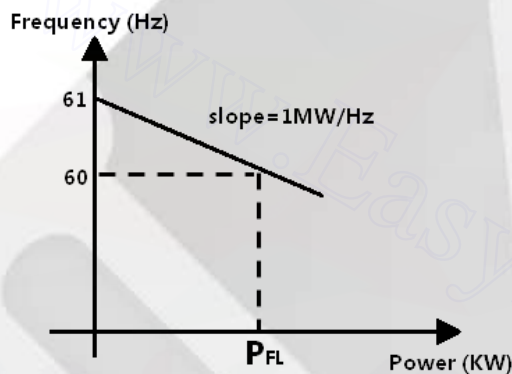
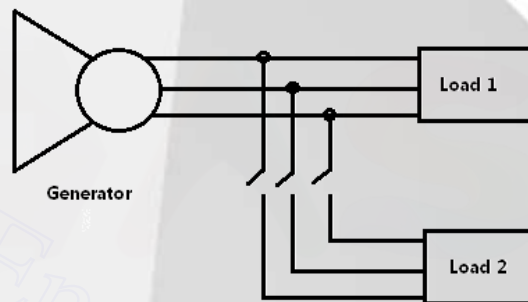

Fig. 1
Fig. 2
Q.3 A generator with the frequency-power characteristic shown in the figure 1, supplying a load. Now a second load is connected in parallel with the first one as shown in figure 2 . Load 1 consumes a real power of 1000KW at 0.8 pf lagging. While load 2 consumes a real power of 800KW at 0.707 pf lagging. The operating frequency of the system before and after the second load is connected are respectively?